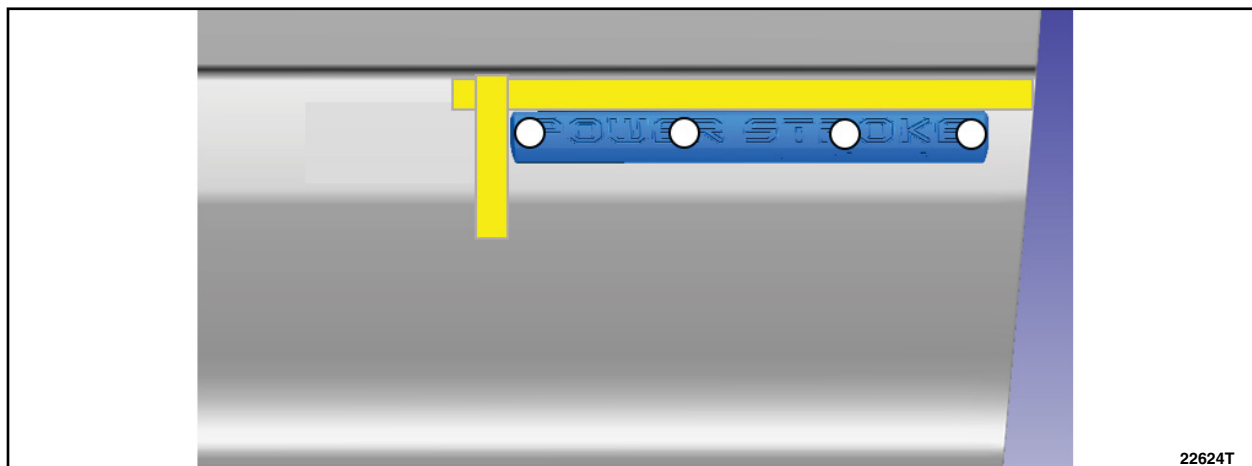

FIGURE 7
26. Remove the tape liner from the back of the badge and install to the door using the locating tape to properly align the badge. See Figure 7.
27. Using medium hand pressure, press for 3 seconds at a minimum of 4 separate locations along the length of the badge until the tape is fully adhered. See Figure 7.